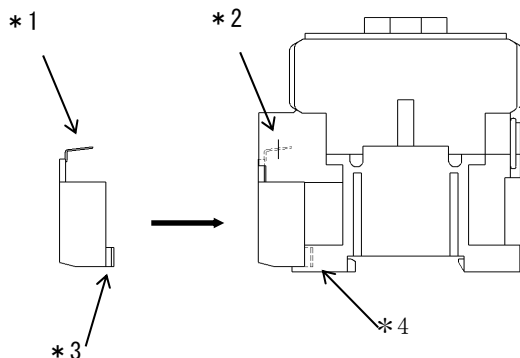

Fig. 1
- (1) Check that the products match the requested specifications.
- (2) Make sure that no parts have been lost or damaged.
3. Mounting (Fig.1)